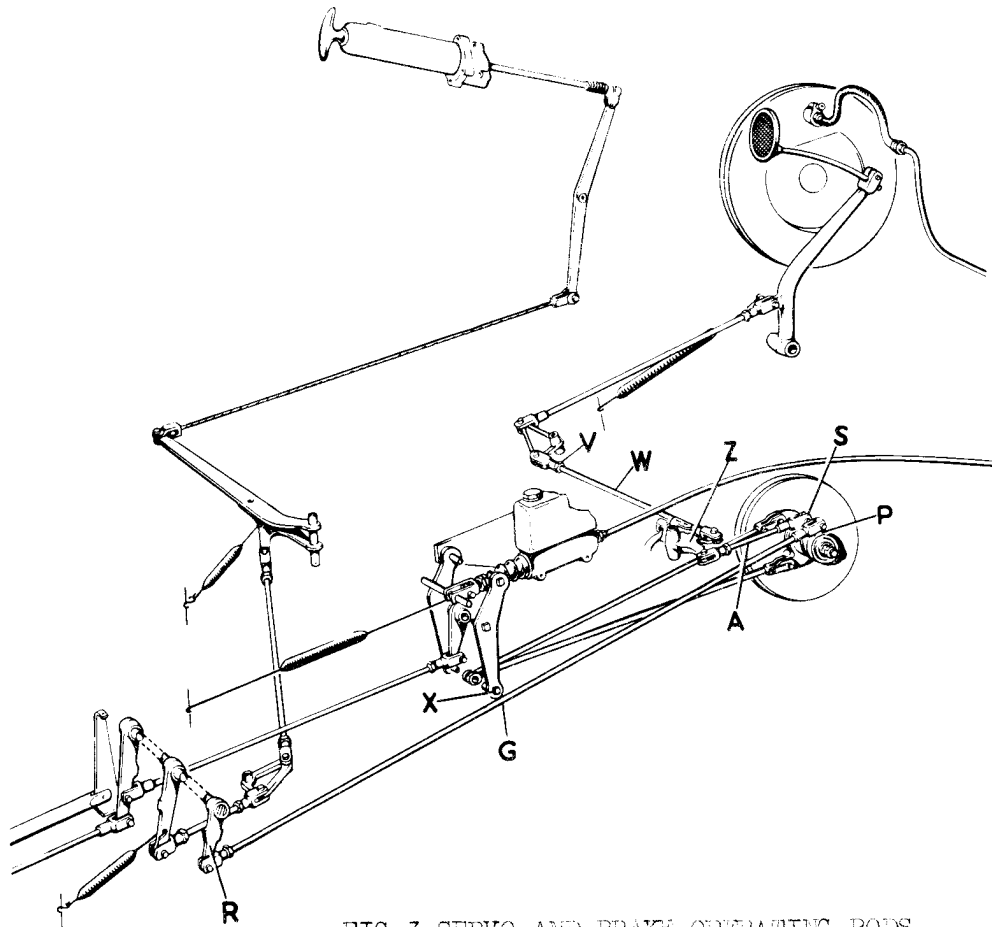

FIG. 3 SERVO AND BRAKE OPERATING RODS.
14. Disconnect the rear brake actuating rod G (Fig.3) at joint R and unscrew from joint P to remove. On left hand drive cars disconnect rod A at joint Z and unscrew from joint S to remove. Disconnect the transfer rod W at Z and unscrew from joint V to remove. On right hand drive cars disconnect the rod from the pedal lever to the servo lever in a similar manner.